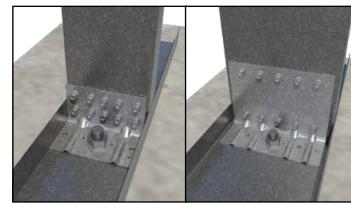

Figure 3 Kwik-Bolts
- A “%” in the shear column indicates that the shear capacity is limited to 1970 lbs when using 1/2" x 2-1/4" Hilti Kwik-Bolts to 3000psi concrete as shown in Figure 3.